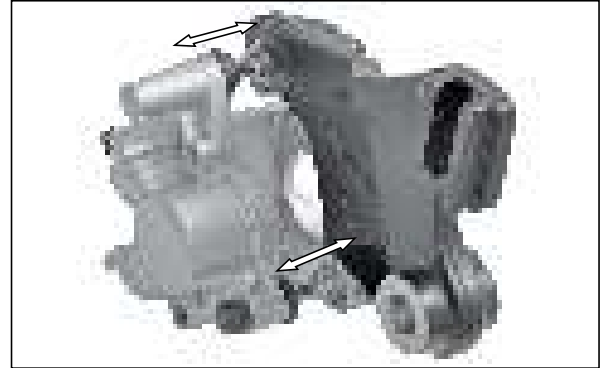

Fig. 6.123
- Remove the bracket complete rear caliper by sliding out after dislocating boot-B and bush boot pin from the pin grooves. (Fig. 6.123)